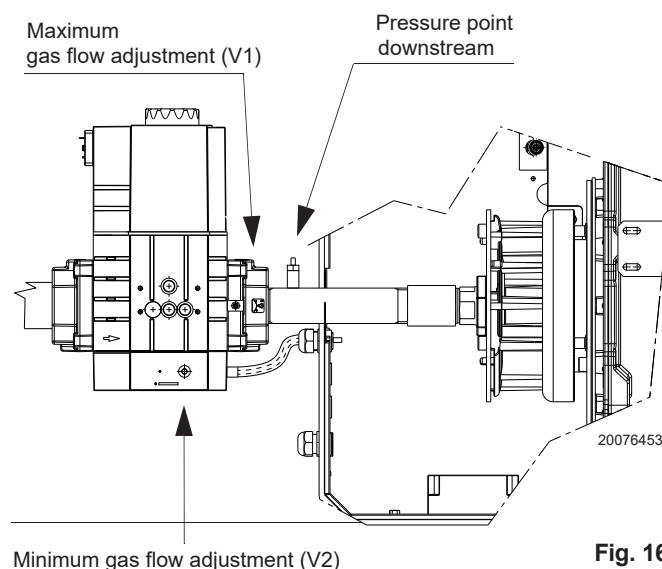

Fig. 166
head within the safety time period of 3 seconds. Turn the screw V1 of the gas valve lightly towards the "+" sign (Fig. 166 on page 51). If, however, at the end of the safety time the burner starts but then switches off, the burner goes into lockout and the display shows **Loc:7** blinking (disappearance of the flame when in operation). Press **"i/reset"**, the display shows **400:Set**. Exit the manual operation mode by several times pressing **"ESC"** (press the keys "+" and "-" contemporaneously). The display shows **Loc:7** fixed. Press **"i/reset"** to unblock the LME7. (List of error codes Tab. U on page 57).
- Turn the screw V1 towards the "+" sign (Fig. 166 on page 51).
- Check the appearance of the flame, if possible, or the value of the CO and CO₂ to understand whether the burner has been sufficiently calibrated (first maximum calibration). If necessary use the screw V2 of the gas valve (turn towards the "+" sign to increase the gas, towards the "-" sign to decrease the gas) (Fig. 166 on page 51).
- Check the appearance of the flame, if possible, or the value of the CO and CO₂ to understand whether the burner has been sufficiently calibrated (first maximum calibration). If necessary use the screw V1 of the gas valve (turn towards the "+" sign to increase the gas, towards the "-" sign to decrease the gas) (Fig. 166 on page 51).
- to increase the gas delivery and the CO₂: turn the V1 screw towards the “+” sign (Fig. 166);
- to reduce the gas delivery and the CO₂: turn the V1 screw towards the “-” sign (Fig. 166);.